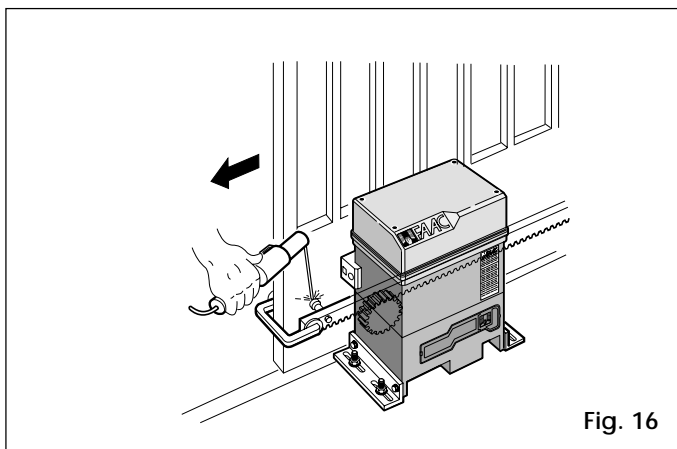

Fig. 16
- 3) Rest the first rack element level on the pinion and weld the first threaded bush onto the gate as shown in Fig. 16.